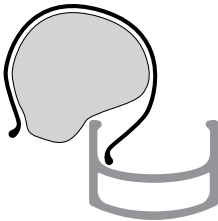

Figure 14. Place the first tire bead in the rim.
4. Install the first bead onto the rim (Figure 14). Start at the valve stem.